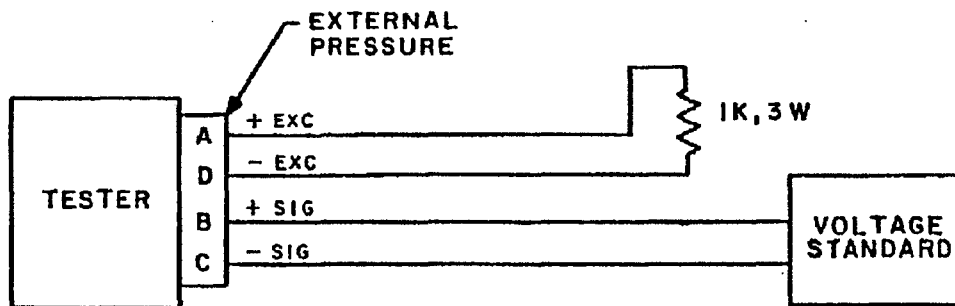

Figure 5-2. External Pressure Test Setup
18. Set mode switch to 0, turn PRESSURE SELECT switch to EXTERNAL and apply a known pressure to the transducer. Pressure display shall read desired pressure $\pm 0.2\%$. If it does, this completes the calibration and scaling of the external pressure transducer. Proceed at step 3 to calibrate external pressure transducers of other engine types. If it doesn't read desired pressure $\pm 0.2\%$, make the external pressure test setup of figure 5-2.